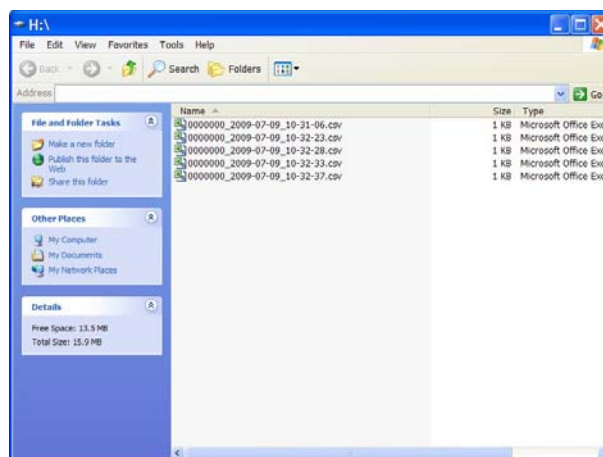

Figure 5: An Explorer Window Following Successful Download
3. Once the download has completed, an explorer window will automatically appear which will show the stored data files as individual .csv files which can be open on spreadsheet packages as required, as shown in Figure 5. Files should be saved to the computer hard drive prior to editing. The CEL-242/246 will not store edited files.